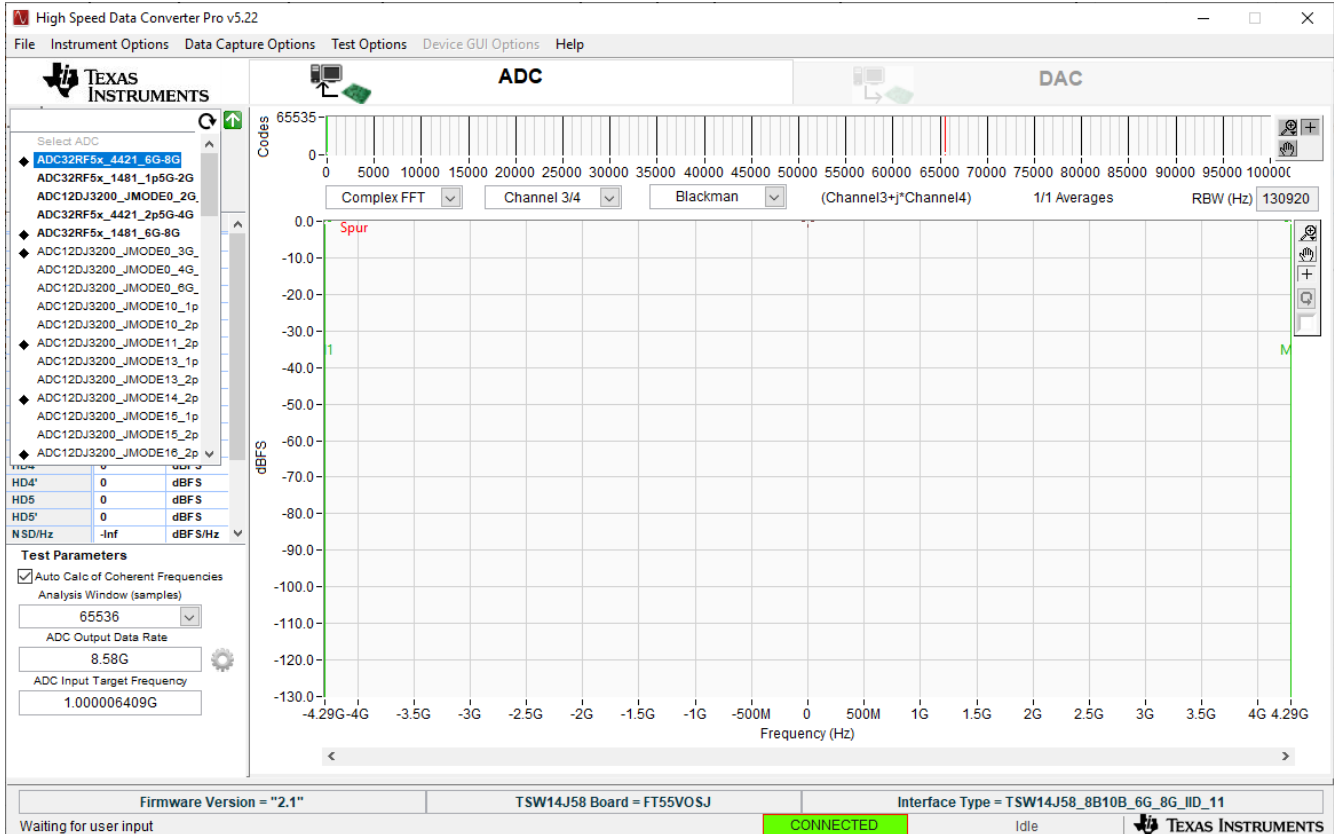

Figure 3-7. ADC32RF5x_4421_6G-8G INI file
- In HSDC Pro, connect to the TSW14J58EVM and select `ADC32RF5x_4421_6G-8G` as the INI file shown in Figure 3-7.